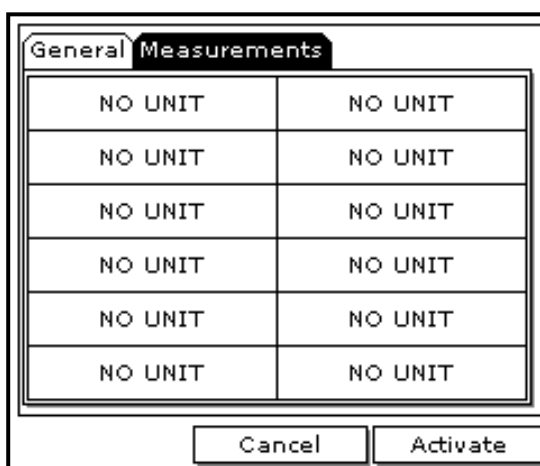

Figure 36: Log Measurements Window
2. Use the arrow keys to move to the Measurements tab and press [ENTER]. A screen similar to Figure 36 appears.